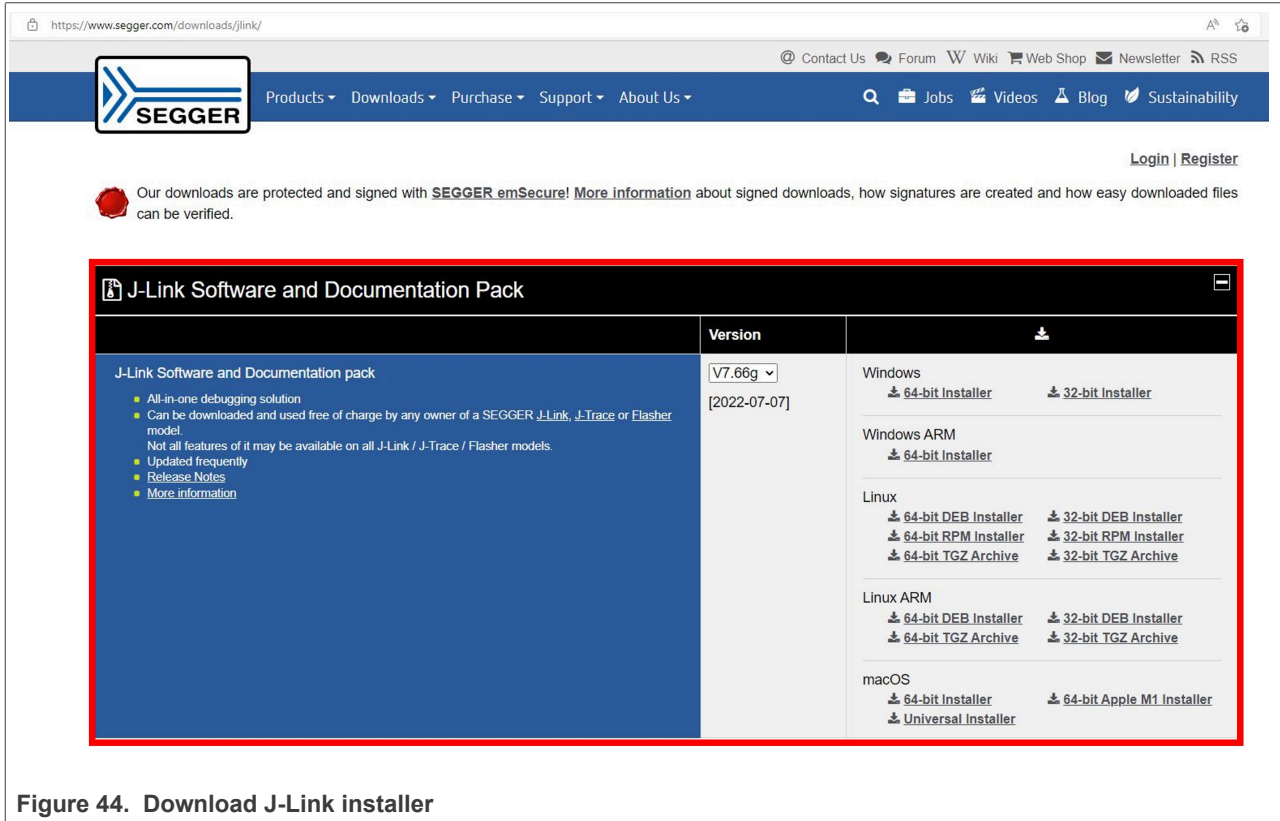

Figure 44. Download J-Link installer
1. Go to the SEGGER J-Link website and download the J-Link installer for your operating system as shown in Figure 44. Run the executable and follow the installation wizard until the installation is completed